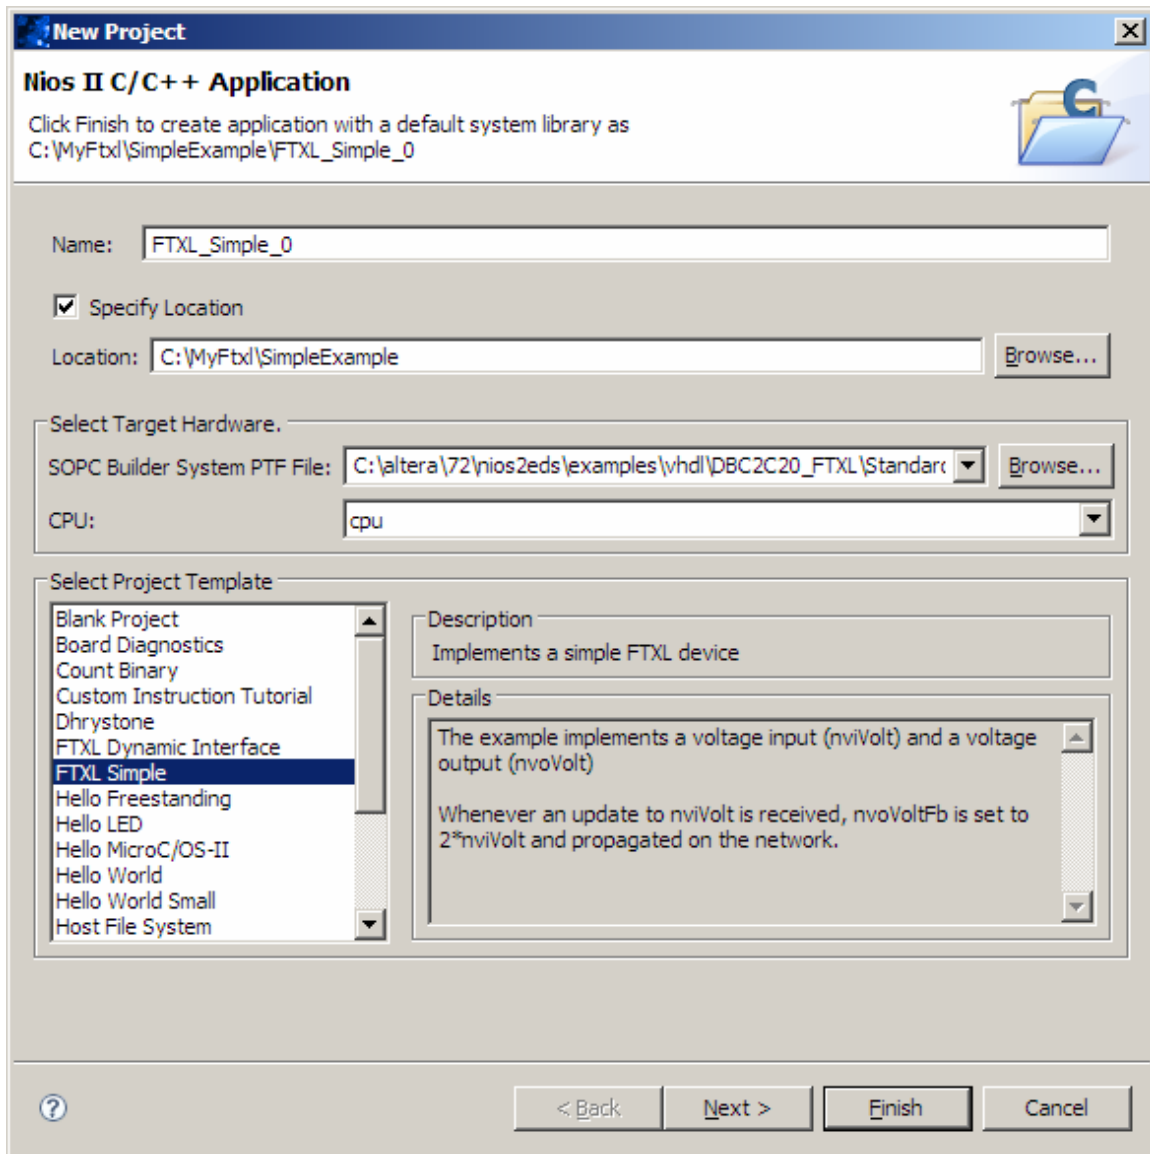

Figure 25. New Project Window for the FTXL Simple Project
7. Click **Finish** to create the project and generate the project's system library. The New Project window should look similar to **Figure 25** on page 217.